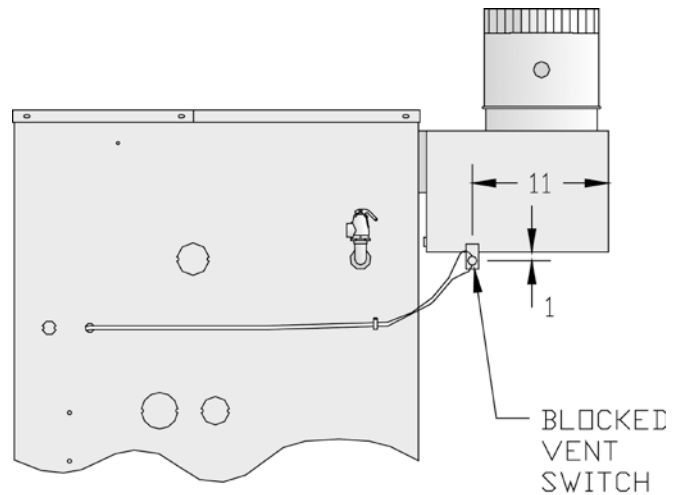

Figure 16: Blocked Vent Switch Installation, IN10 through IN12
2. Models IN10 - IN12. Install on right side of draft hood. See Figure 16. Reset switch must face away from draft hood relief opening.